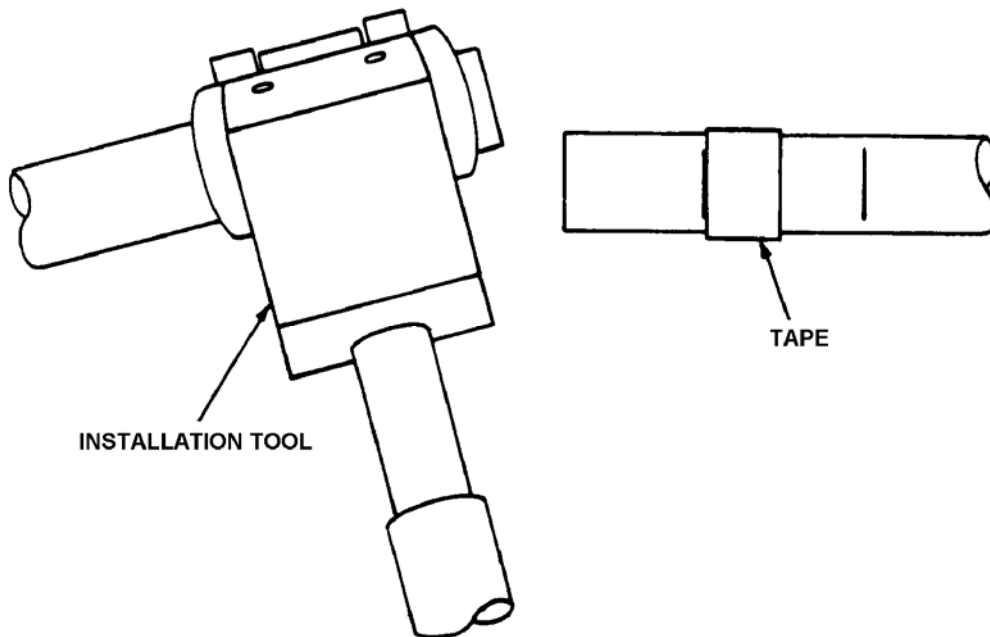

Figure 9. Installing Cryofit Coupling
o. Using the installation tool, slip the coupling onto the tube without the tape (Figure 9). Realign the tubes and slide the coupling against the tape.